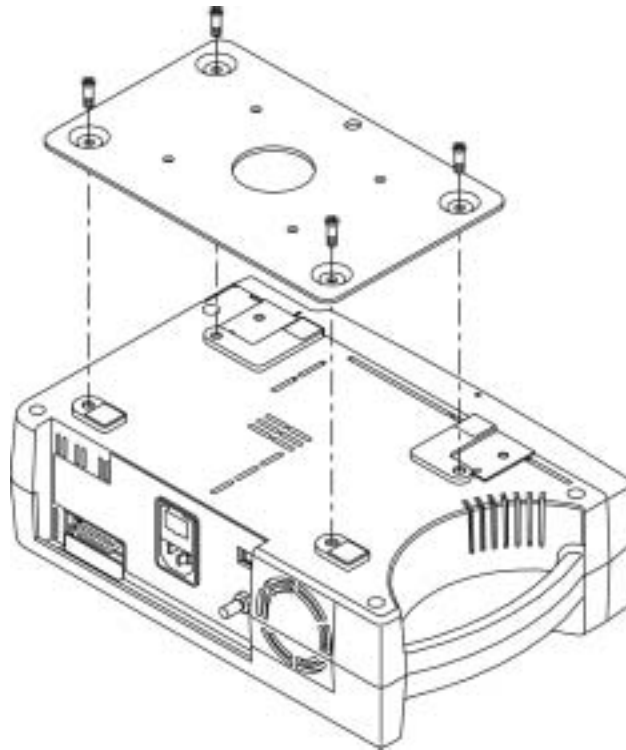

Figure 7: GCX Mounting Plate
- GCX Mounting Plate. See Figure 7 on page 105.
The mounting plate attaches to the bottom of the N-595 pulse oximeter as shown in Figure 7 on page 105. For further instructions regarding connecting the mounting plate to GCX brackets, refer to the illustrated directions for use included with the GCX mounting plate.